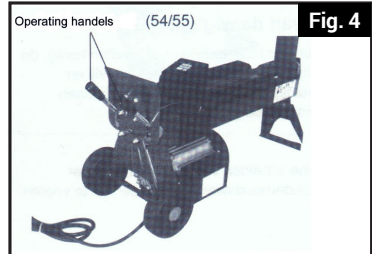

Fig. 4
Unpack the operating handles (54/55) from the box and screw them in the receiving hole (52) of the handles on the Main Body, then turn the handles to tighten. (See Figure 4)